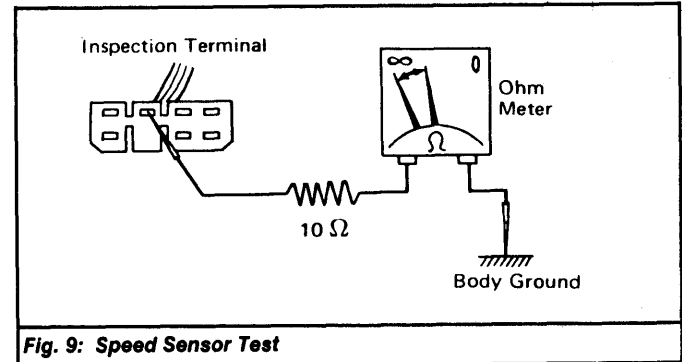

Fig. 9: Speed Sensor Test
2) Unplug wiring connector from computer. Using a 10 ohm resistor, connect positive lead of ohmmeter to computer connector speed sensor terminal. See Fig. 9. Connect negative ohmmeter lead to a known good ground.